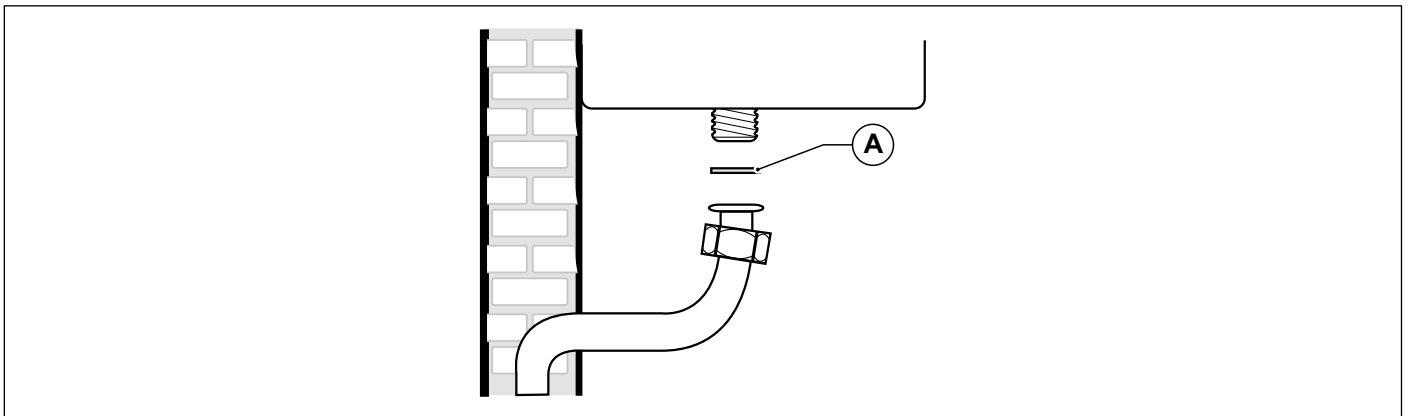

Fig. 15 Connection to gas mains
When connecting the boiler to gas supply network, it is COMPULSORY to install an appropriately sized gasket (A) made from suitable material (see Fig. 15 Connection to gas mains).